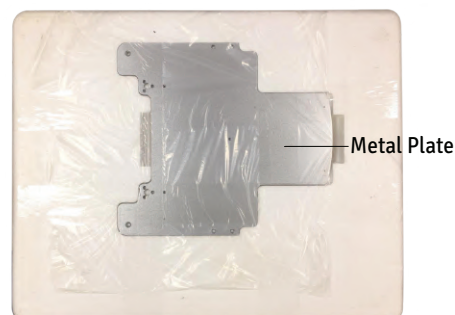

Figure- 1 Table Top
3. On Top of the Thermocol box Table top metal plate form is placed as Shown in Figure-1. Take it out.